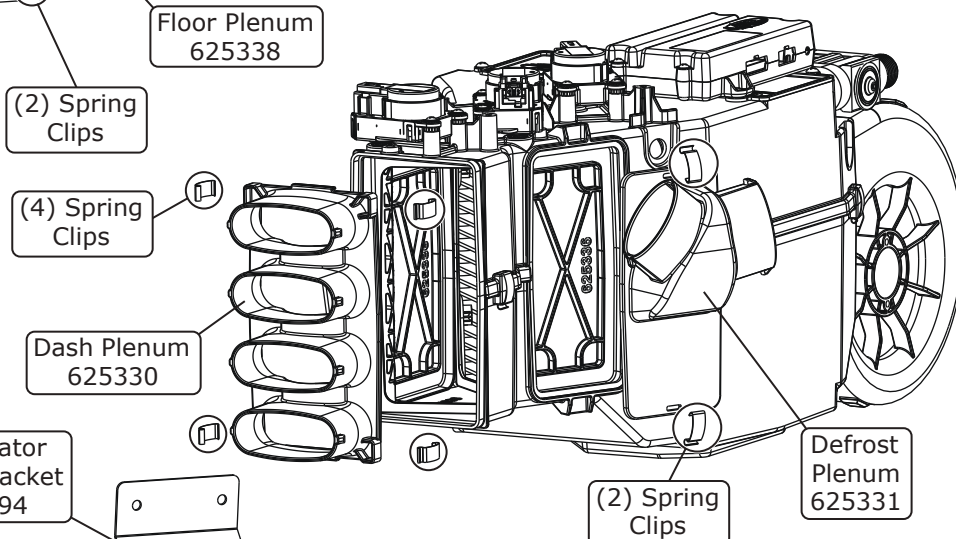

Figure 1a
2. Using (2) #12 x 1/2" self-tapping screws, secure the evaporator front mounting bracket to the cowl (See Figure 1a, below).
4. Reinstall the (2) OEM bolts under the dash on the passenger side door pillar.